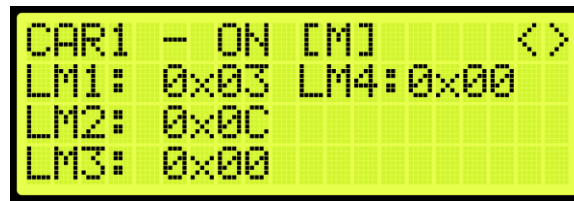

Figure 269: Linked Hall Mask Status
8. From the Linked Hall Mask Status (See Figure 269), press the right button.